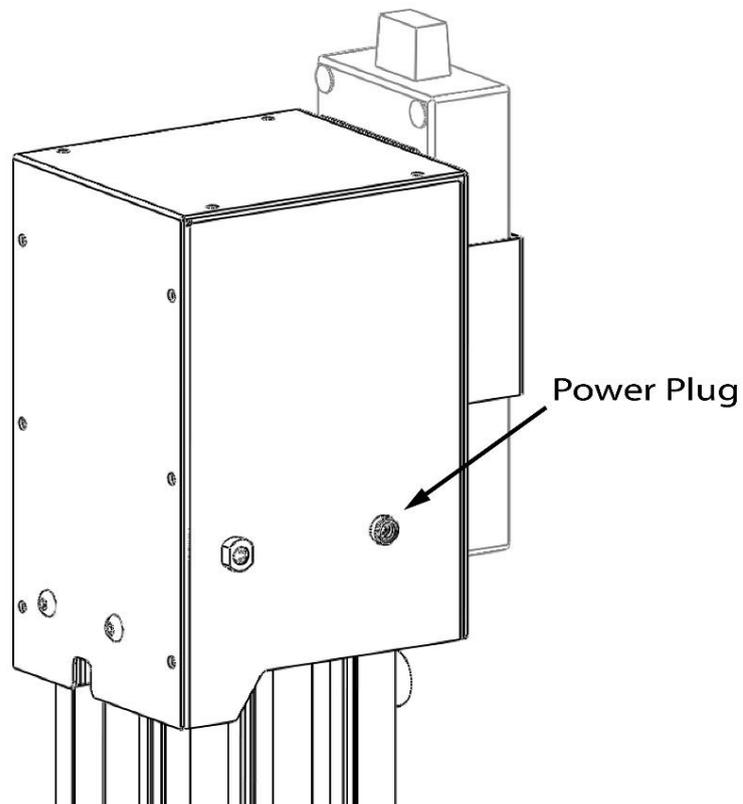

Figure 7: Top power plug and power supply bracket
12. Locate the power supply bracket in the power supply box and mount it to either the top cover or motor cover of the stand (depending on which power plug you will be using), with the included M4 screws from the same box and a 2.5 mm hex wrench. See **figures 7 and 8**.
13. Plug the power supply unit into an electrical socket and one of the two power plugs on the stand (**figures 7 and 8**).